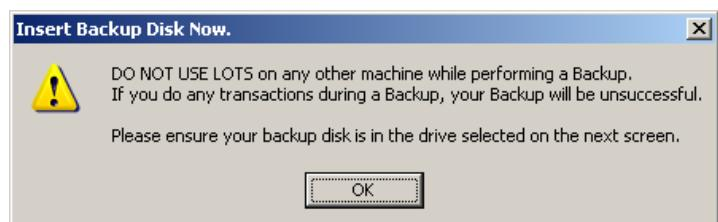

Figure 417
2. The 'Insert Backup Disk Now' window appears prompting you to enter your backup disk into the drive and ensure that LOTS is not in use on any other computer (as shown in Figure 417).